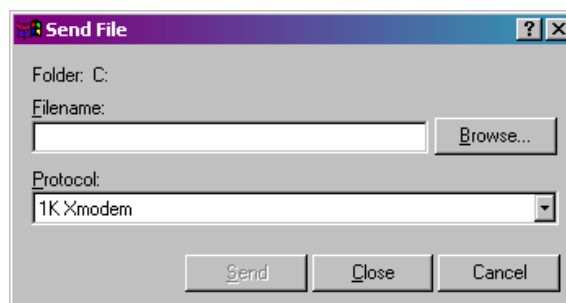
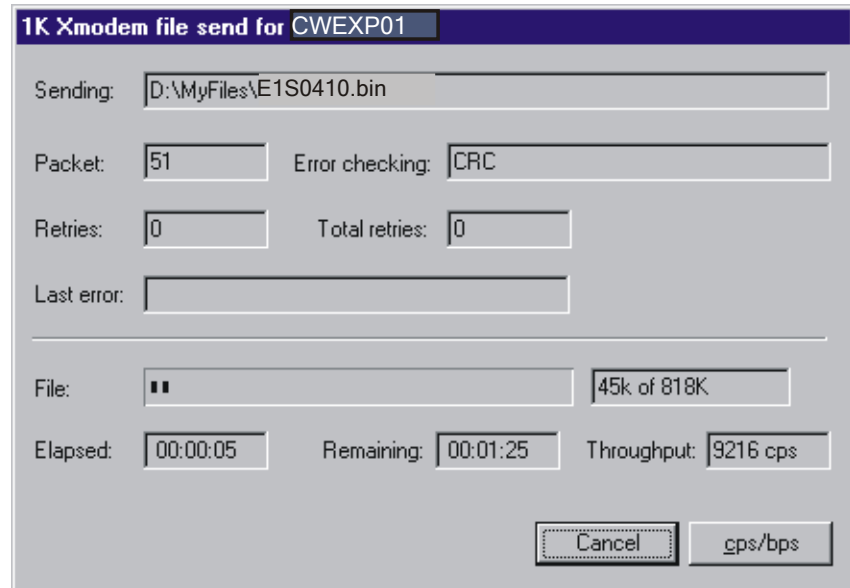

Figure 5-3. Send File dialog box
Figure 5-4. HyperTerminal (Download in Progress)
8. In the Send File dialog box (see *Figure 5-3*), select **1KXmodem** for the protocol, enter the filename of the appropriate .bin file in the format "E1Sxxxxx.bin" or "E3Sxxxxxx.bin" (where E1S refers to 14 MHz CPUs, and E3S refers to 33 MHz CPUs and xxxxx varies from release to release) and click **Send** to start the flash upgrade (see *Figure 5-4*). When you see the HyperTerminal Mode Menu again, it means the download has completed.